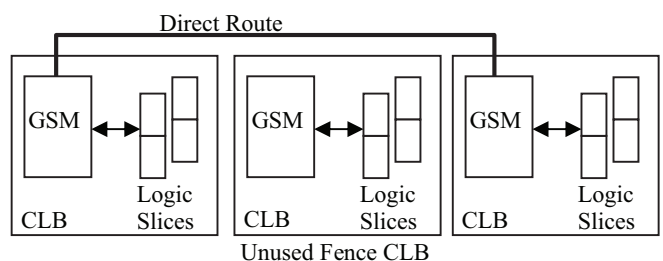

Figure 4. (U) Logical representation of a Bus Macro
(U) Bus Macros, as shown in Figure 4, are small pieces of IP that are pre-designed by Xilinx, analyzed by NSA, and then used by the FPGA designer. Since they are designed in advance and provided in the form of an .nmc file, they are considered hard macros since the logic and routing used is pre-defined. The value of the Bus Macro is that it eliminates un-deterministic routing behavior when providing a communication path between isolated regions. Bus Macros are commonly used in commercial Partial Reconfiguration applications. A set of special Bus Macros have been designed by Xilinx to meet the FSDA requirements.